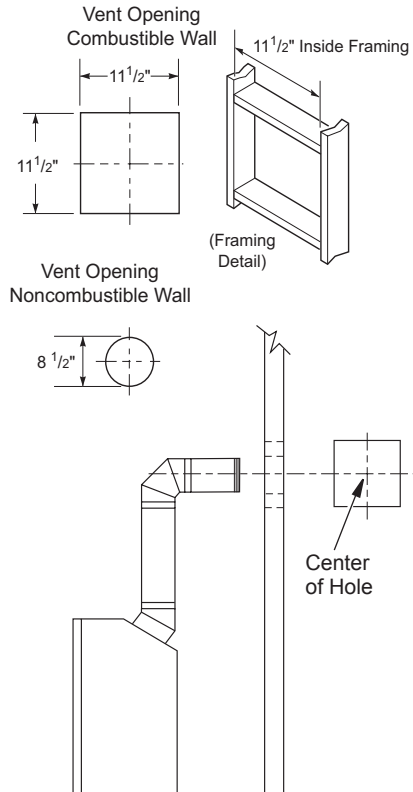
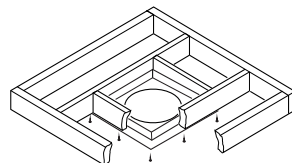

Figure 9 - Vent Opening Requirements
Figure 20 - Installing Firestop
5. Carefully determine location where vent pipe assembly will penetrate outside wall. Center of hole should line up with center line of horizontal vent pipe. Mark wall for a 11 1/2" x 11 1/2" square hole. Cut and frame square hole in exterior wall where vent will be terminated. If wall being penetrated is constructed of noncombustible material, such as masonry block or concrete, a 8 1/2" hole with zero clearance is acceptable (see Figure 9).
should be framed to 11 1/2" x 11 1/2" inside dimensions, as shown in Figure 9 on page 10, using framing lumber the same size as ceiling joists. If area above ceiling is insulated ceiling or an attic, nail firestop from top side. This prevents loose insulation from falling into required clearance space. If area above ceiling is a living space, install firestop below framed hole. Firestop should be installed with no less than three nails per side (see Figure 20).
3. Cut a hole in the roof using locating hole as a center point. (Cover any exposed open vent pipes before cutting hole in roof.) The 11 1/2" x 11 1/2" hole must be measured on the horizontal; actual length may be larger depending on pitch of roof. There must be a 1" clearance from vent pipe to combustible materials. Frame opening as shown in Figure 9, page 10.